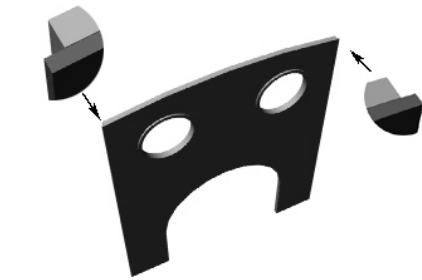

Fig 7
2. Study the way the panels are assembled to provide rebates at the corners. (Fig. 7,8,9)